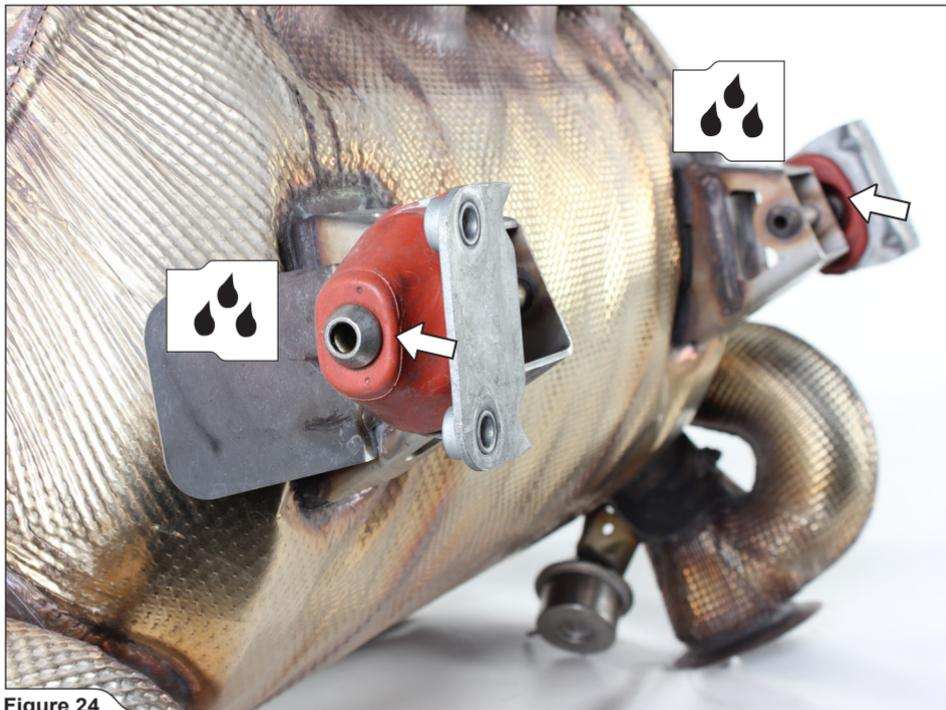

Figure 24
16. Carefully remove the rubber brackets off the muffler (**Figure 24**).